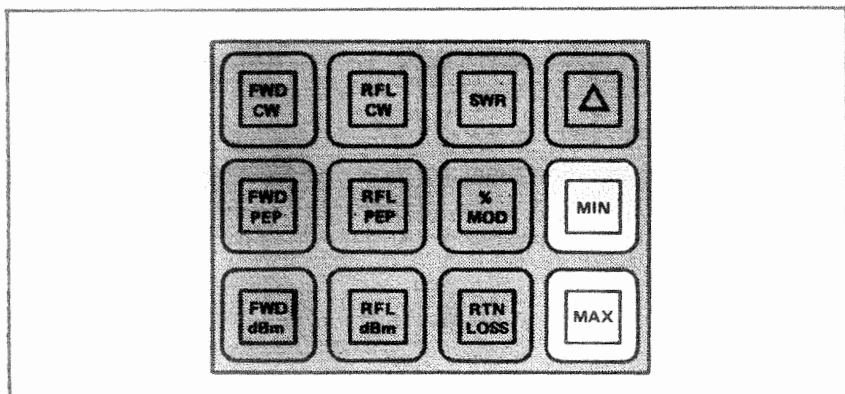

Figure 3-8. Maximum or Minimum Readings.
h. Monitoring Maximum and Minimum Readings. (Figure 3-8). While operating in any of the modes described, the 4380 Series will continuously keep track of the highest and lowest reading obtained. This action begins after ten reading cycles to allow time for the peak detectors to settle from the previous mode. To recall the maximum or minimum reading, hold the **MAX** or **MIN** key depressed. When these keys are released, the meter goes back to displaying the current value of the parameter being measured. Recalling maximum or minimum does not stop the meter from continuing to monitor the current value and updating the minimum and maximum registers. To clear the minimum and maximum register, the mode key must be pressed again or a
other — even with eyes closed — then push the **MIN** memory button to display the optimum achievable value, and tune your gear to match it. The same easy procedure is available for desired maximum levels, by use of the **MAX** memory button. This is even faster than tweaking with an analog display meter, since one need not pass the signal dip (or peak) several times to be certain the optimum condition has been reached: The memory shows exactly what **MIN** or **MAX** value to aim for (Figure 3-8).